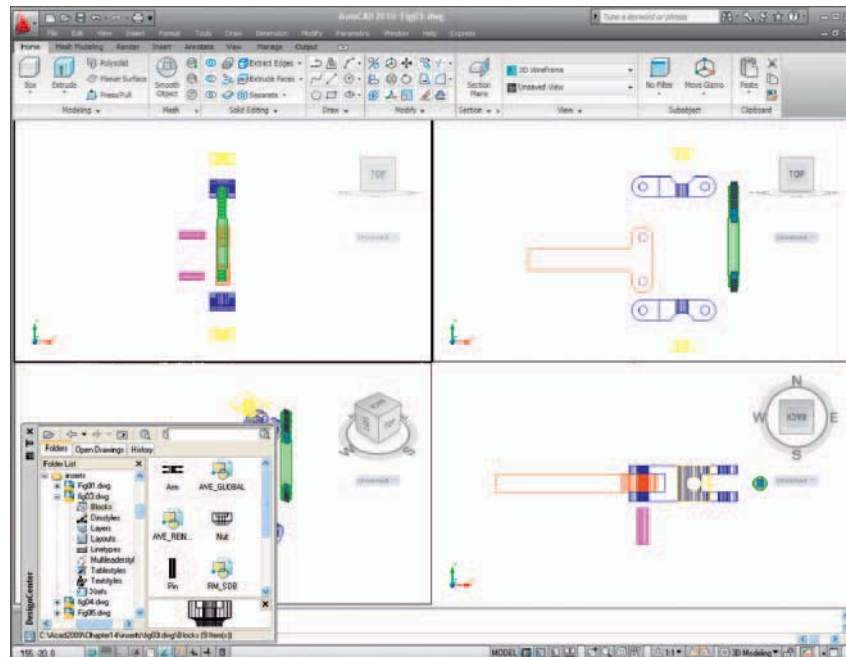

Fig. 14.3 First example – Inserting 3D blocks
6. *Drag and drop* the blocks one by one into one of the viewports on screen. **Figure 14.3** shows the **Nut** block ready to be *dragged* into the **Right** viewport. As the blocks are *dropped* on screen, they will need moving into their correct positions in suitable viewports using the **Move** tool from the **Home/Modify** panel.